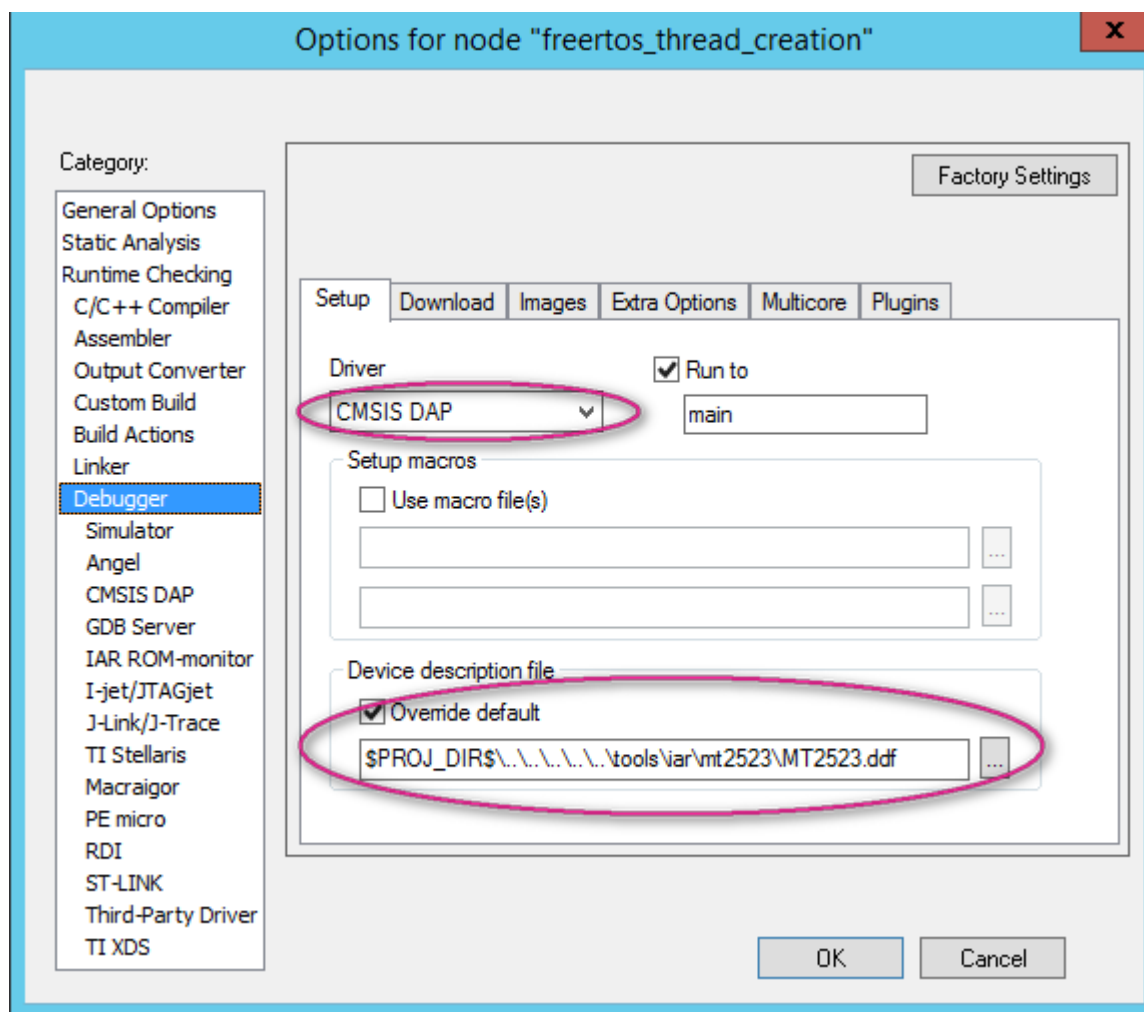

Figure 64. Select debug driver and ddf file
- a) Set **Driver** to **CMSIS-DAP** debugger (see Figure 64).